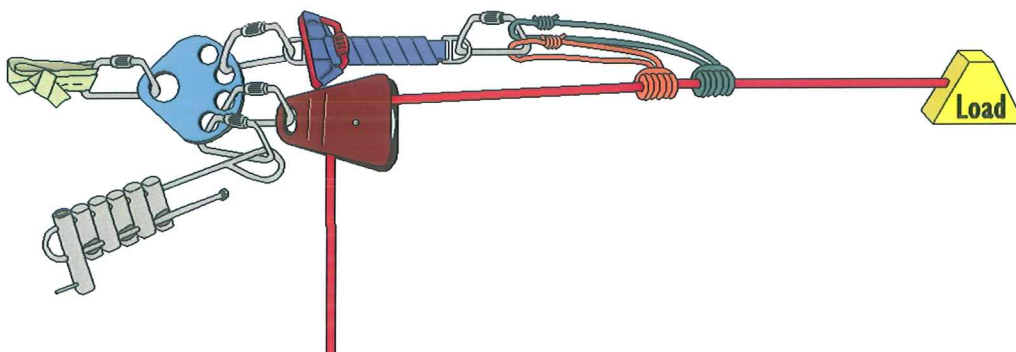

Figure 12-3: Reeve the Belay/Safety Line
3. Reeve the belay/safety line in the change of direction pulley at the rigging plate. (Figure 12-3)